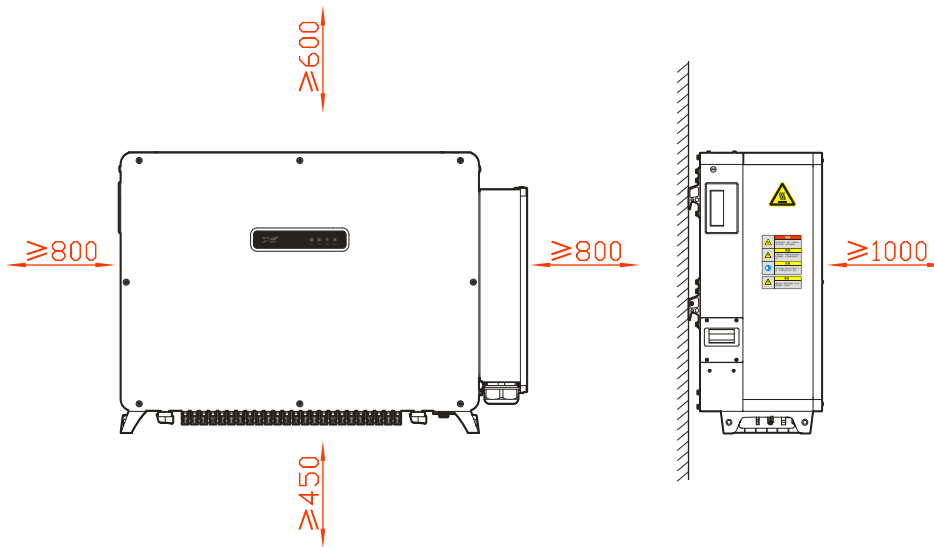

Figure3-4 Installation clearance
- Keep a clearance of at least 800mm from the left side and right side of inverter to other objects, at least 600mm from the top of inverter to ceiling and at least 450mm from the bottom of inverter to ground, which is good for heat dissipation or maintenance, as shown in Figure3-4.